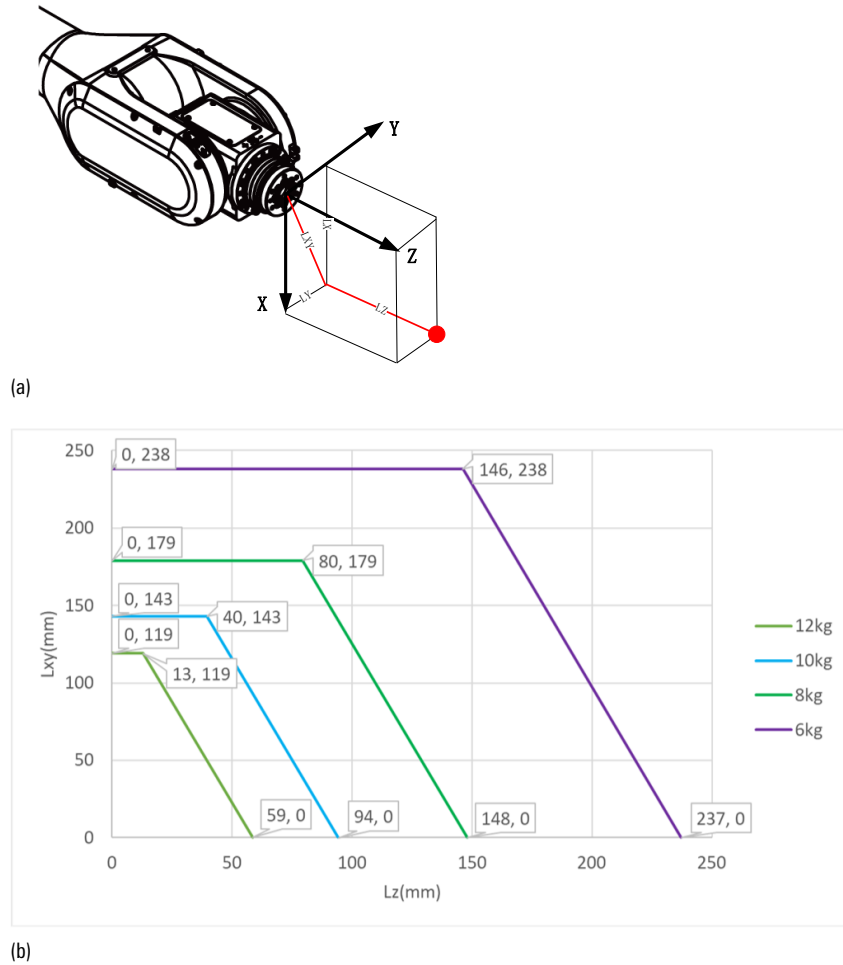

Figure 7-5 AIR12-2000B-HI wrist load centroid position diagram
The wrist load line diagram of AIR12-2000B-HI manipulator is shown in Figure 7-5.
- The center of mass of the elbow load shall be located inside the area of 150 mm x 80 mm of the mounting screw as shown in Figure 7-5.